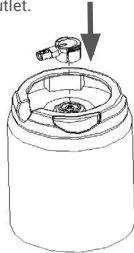

Fig.1
- Remove the plastic security cap from the keg using a flat head screwdriver. (Fig. 1)
- Attach to the Heineken adaptor (fig.1) and the clear beer delivery tube, feed this into the tap head as shown (Fig.8) before clipping it to the Heineken beer keg.